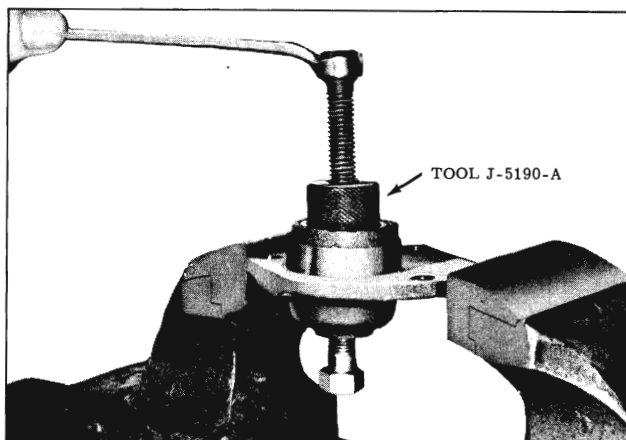

Fig. 4-9 Removing Needle Bearing
- d. Turn the forcing screw in to expand jaws and remove the bearing (Fig. 4-9)